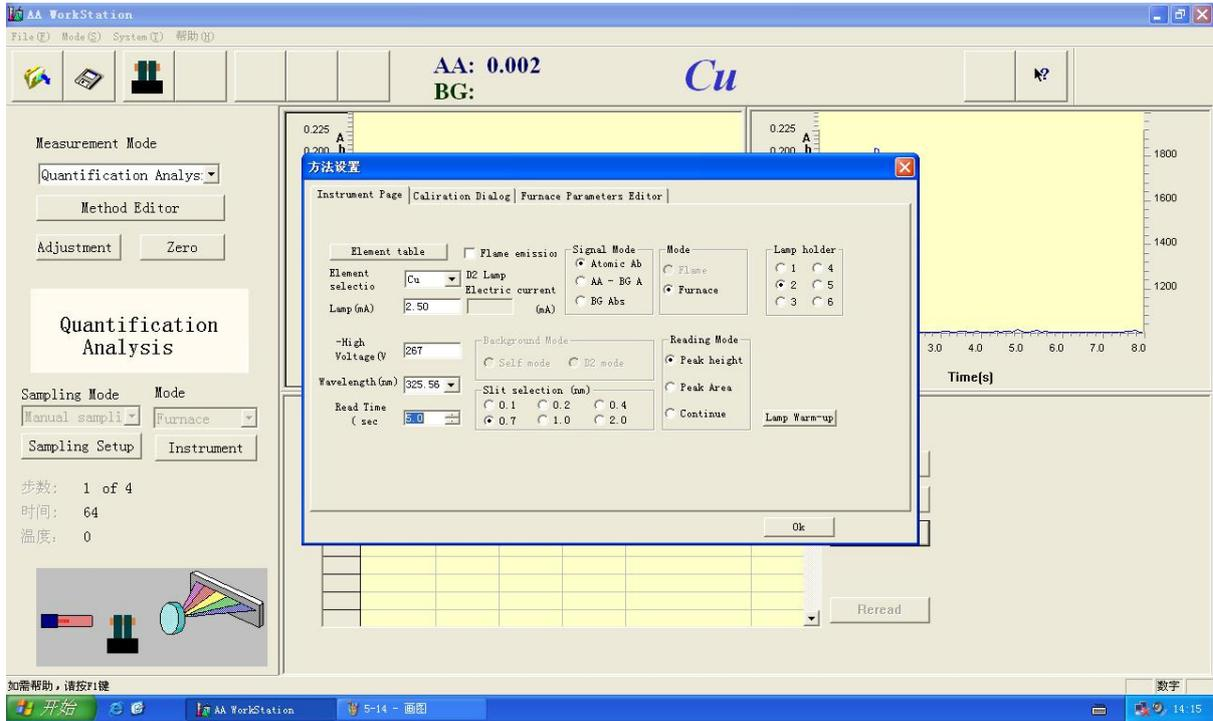

Figure 5-15a
2. Input the appropriate "Read Time" in the "Instrument Page", select appropriate "Reading Mode" (Figure 5-15a)